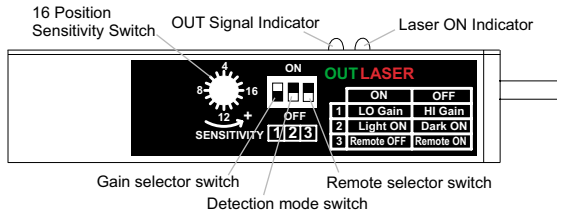

Figure 4 - Indicators & Controls
- D) Yellow wire is not required if Remote Selector Switch (see figure 4) is set to OFF. The current limiting resistor R2 needed in previous model sensors is not required. However, the sensor will work with R2 (up to 700 ohms) installed in the wiring external to the sensor.